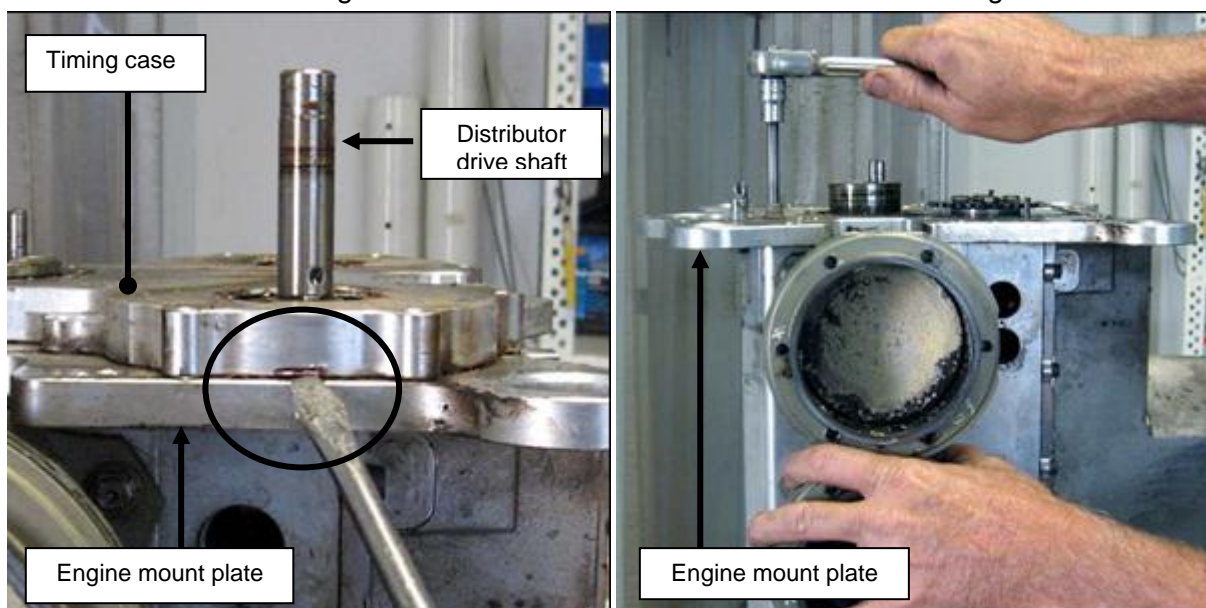

Figure 49 – Remove Timing Gearbox Case
- Remove the cap screws from the timing case and remove the case from the engine mount plate – there are machined recesses in each side of the timing case, as shown circled in Figure 49, that are designed to allow a screwdriver tip to be inserted and twisted to break the gasket seal and free the timing case. A soft hammer may be used to help.